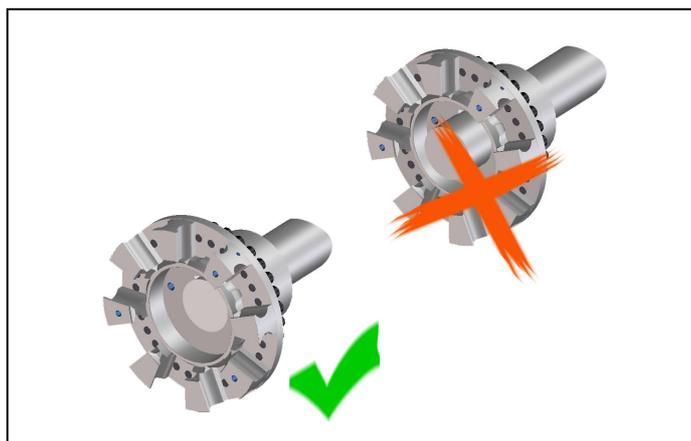

Fig. 4
- Mount the hubs in such a manner that the shaft ends are flush with the inner bore openings (Fig. 4). Observe deviant agreements, which may exist!